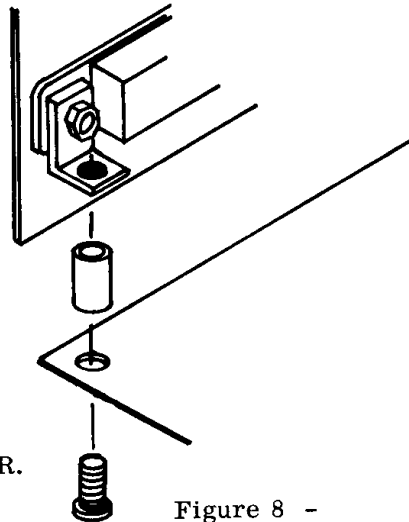

Figure 8 -
- ( ) Using two 4-40 X 1/2 inch machine screws and two 1/4 inch spacers fasten the circuit board to the threaded holes in the "L" brackets previously attached to the front panel as shown in detail drawing figure 8.